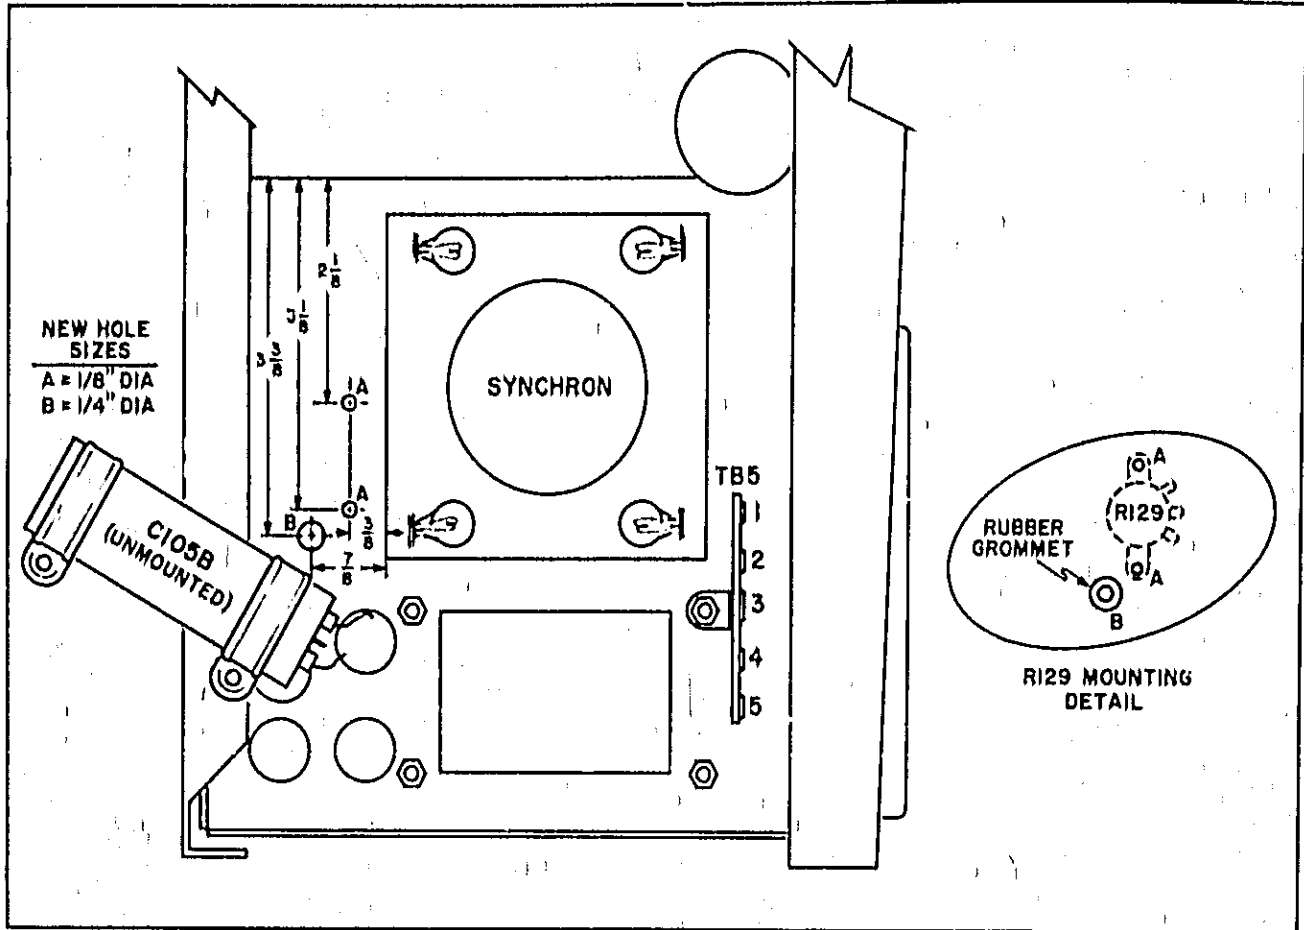

Figure 2. Side View of 412A.
2. Refer to Figure 2 for Steps 2, 3, and 4. Mount 5 pin terminal strip (TB5) on the transformer mounting bolt.